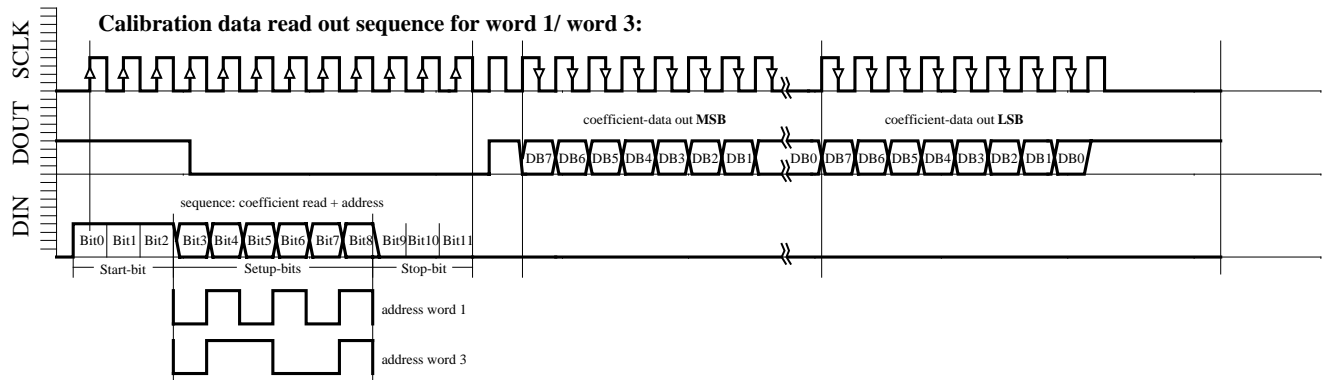

Fig. 6c: W1, W3 reading sequence
- Calibration data read-out sequence for word 1 (Figure 6c)
- Calibration data read-out sequence for word 3 (Figure 6c)